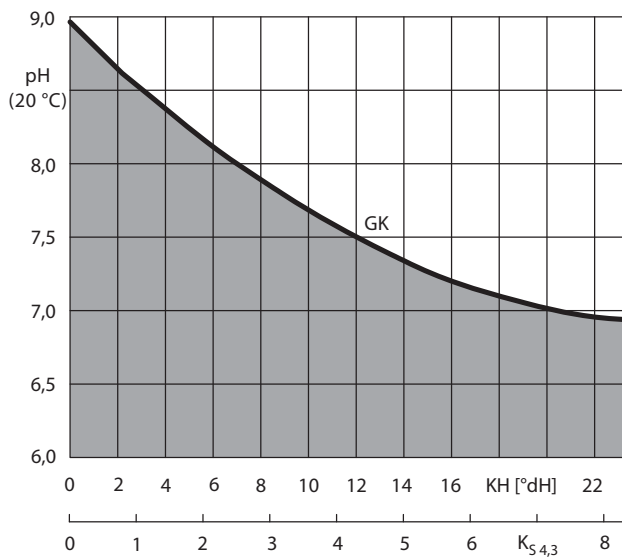

Fig. 1: Tendency to deposit limy layers
- Tendency to deposit limy layers according to Fig. 1
Coatings have a negative effect on pumping or impair the heat dissipation of the drive motor. Undesired deposits may be formed if there is an excessive tendency toward lime deposits according to Fig. 1 (hard water) (e.g. iron approx. 0.2 mg/l or manganese approx. 0.1 mg/l, ochre coatings or manganese dioxide).